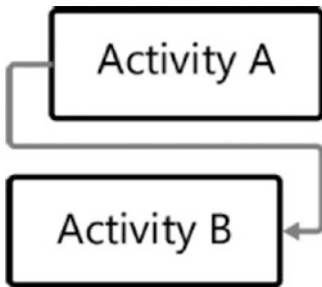

Figure 4-6. Start-to-finish relationship
- *Start-to-finish (SF)*: The successor cannot finish until predecessor starts. For example, you may have an activity that is to send the invoice for a product, but the invoice cannot be sent (finished) until delivery of the product has started. This type of relationship is almost never used, because it seems to indicate that the successor should be the predecessor and vice versa. Figure 4-6 depicts how this would be represented diagrammatically.